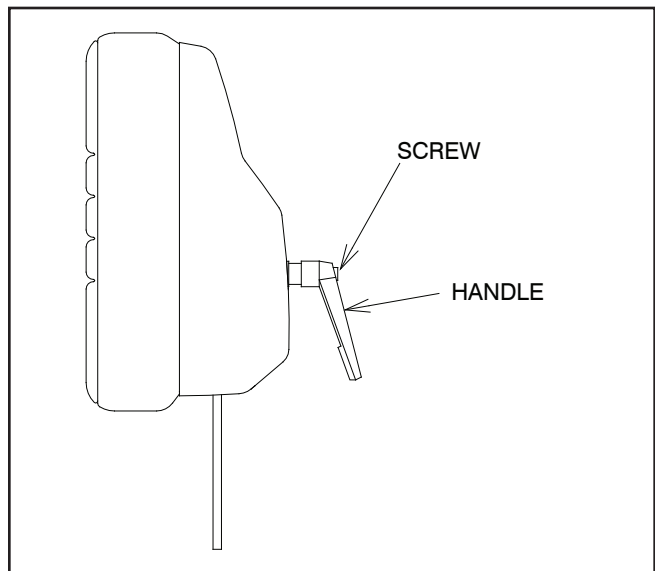

FIGURE 5
3.9.5.1. A single handle on the rear of the No. 11, 21, 31 headrests controls the locking mechanism. To unlock, grasp the handle and turn counter-clockwise. Change the tilt of the headrest until it is in the desired position. To lock, turn the handle clock-wise until snug. (See Figure 5, No. 11 Headrest shown)
3.9.6.1. The handle on the outermost knob can be adjusted to any preferred, locked position. Simply push in on the large screw while pulling out on the handle. Rotate as desired, and release. (See Figure 5, No. 11 Headrest shown)